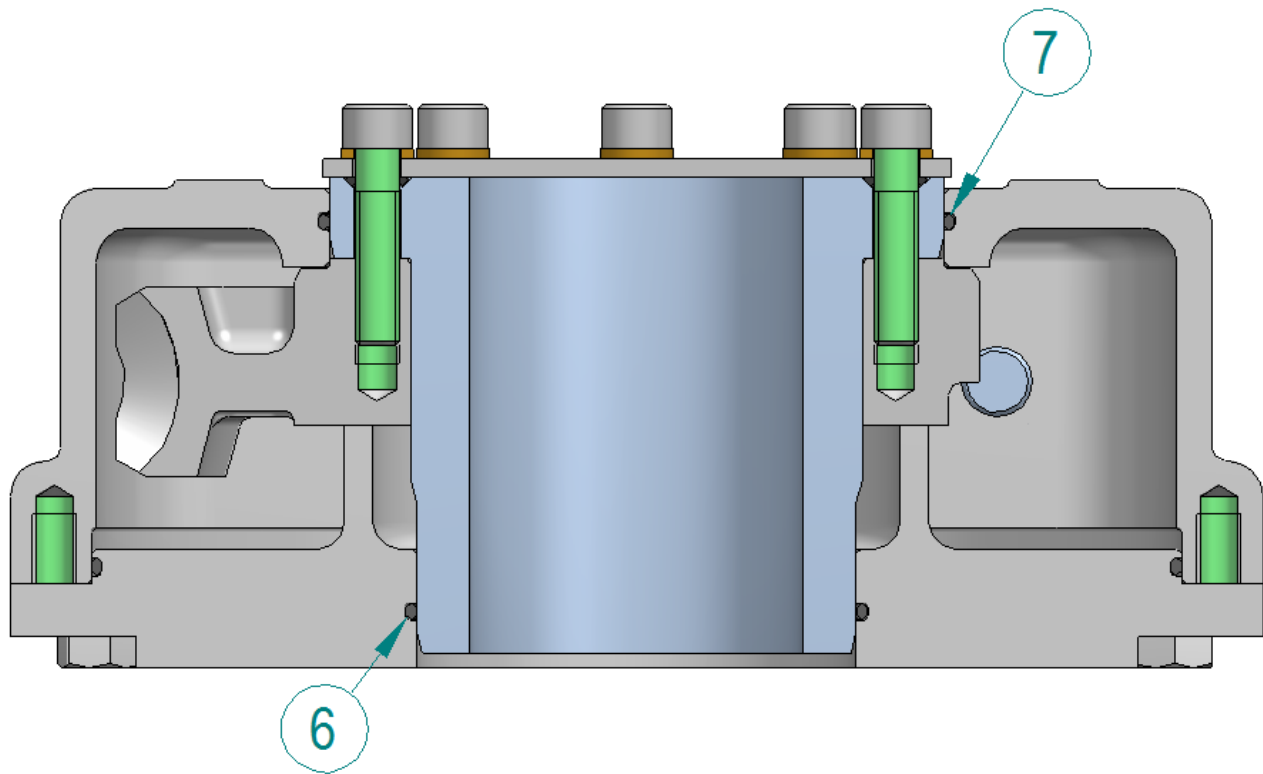

Figure 3 - O-Ring Inspection
Referring to Figure 3, O-rings (6) and (7) are to be inspected for damage, greased and properly seated before re-fitting the output sleeve. If the O-ring is damaged then it should be replaced prior to fitting the output sleeve.